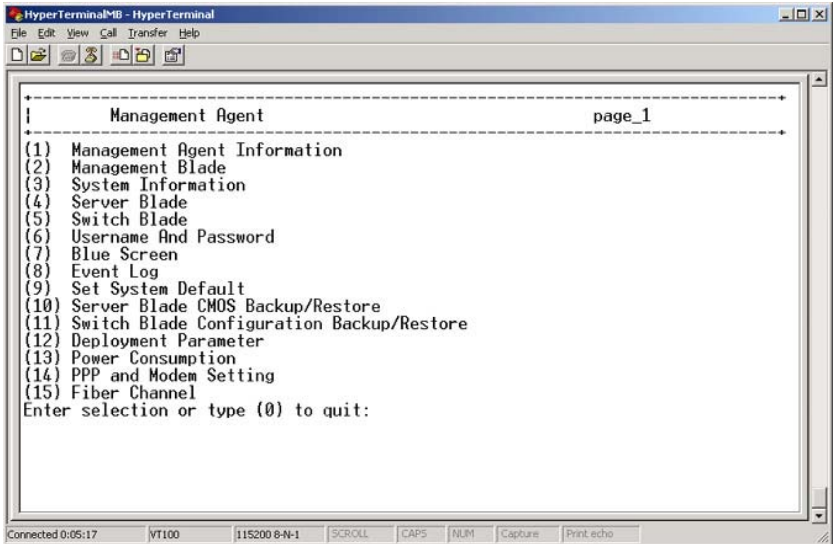

Figure 19: Management Agent menu.
You can change the root password of the management blade via menu item 6 (*Username and Password*) of the *Management Agent* menu (see figure 19 on page 57).